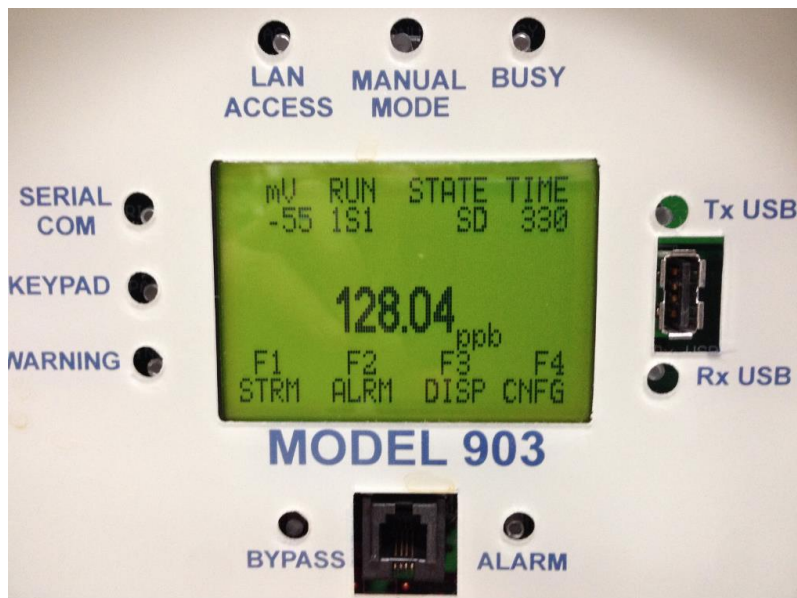

Figure 4-2: The LCD Display (Main Page)
The main page of the LCD (Figure 4-2) contains three discrete regions:
F1	On the Main page (Figure 4-2), the F1 key accesses the Stream (STRM) menu (Section 4.5) and is used to select the stream of interest. On other screens, the F1 key is used as a page-up (PGUP) function key to scroll through multiple menu screens if required or is used to select a sub-menu.
F2	On the Main page (Figure 4-2), the F2 key accesses the Analyzer Alarm (ALRM) list. (Section 4.6). On other screens, the F2 key is used as an up (UP) function key to scroll through multiple menu screens if required or is used to select a sub-menu.
F4	On the Main page (Figure 4-2), the F4 key accesses the Configuration (CNFG) menu. On other screens, the F4 key is used as a page down (PGDN) function key to scroll through multiple menu screens if required or is used to select a sub-menu.
EXIT	Exits any other menu screen and returns to the main display screen Figure 4-2).